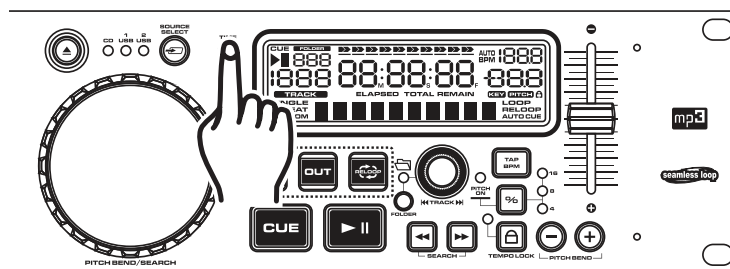

Figure 14
12. CHANGING THE TIME DISPLAY (26)/TIME BAR (27):
The time may be displayed in three different modes; Total Remain, Remain, and Elapsed. During normal playback, pressing the **TIME BUTTON** (5) as in figure 14, will change the time display information (26) in the LCD. The following is a break down of the time settings and their definitions:
- 1) **TOTAL REMAIN** (34) - This details the time in the *LCD* as the current CDs' total remaining time.
- 2) **REMAIN** (34) - This details the time in the *LCD* as the current tracks' remaining running time.